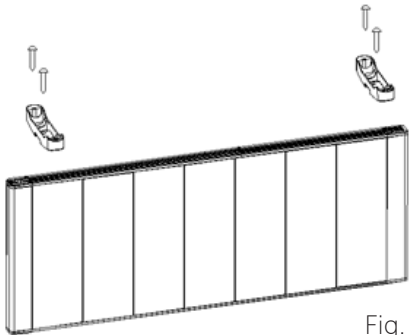

Fig. 1
3. Use two ST4*18mm screws to attach each foot, see fig. 1.